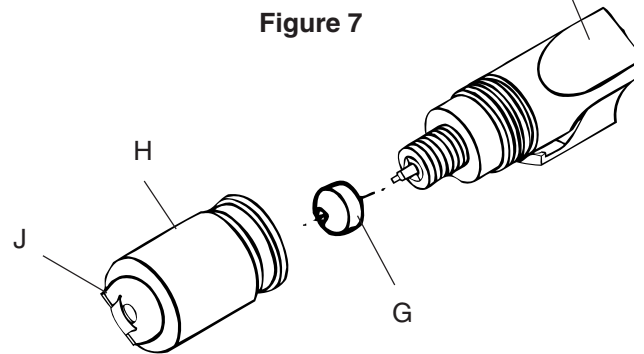

Figure 8
- Mount tip (G) on paint channel of spray gun body (F). See Fig.8.
- Place air cap (H) on tip (G) fitting lugs of air cap into grooves of tip insert.
- Mount air cap (H) onto spray gun body until past the tip security lever.
- Adjust desired air jet level by means of air cap horns (J) and tighten air cap.
- Remove air cap (H). (See Fig. 8)
- Remove flat spray tip (G) and clean it.
- Carefully handle the carbide flat spray tip (G); avoid cleaning with sharp-edged metal objects.